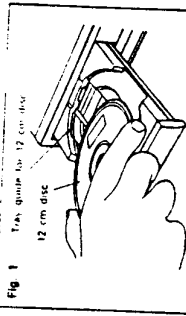
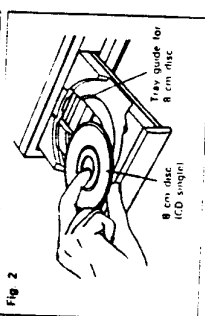

Fig 1 Tray guide for 12 cm disc
Fig 2 Tray guide for 8 cm disc (CD single)
- When using 12 cm diameter discs, make sure the tray guide matches the tray guide circumference (Fig. 1) and the outer edge of CD singles (8 cm diameter) match the outer edge with the inner tray guide circumference (Fig. 2)